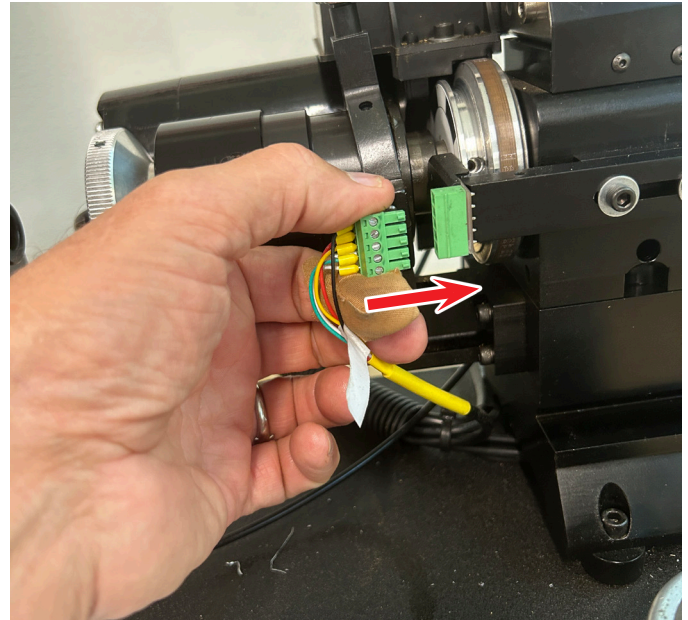

FIGURE 10—Reconnecting the optical encoder wires.
- 5. With the power OFF, reconnect the green optical encoder connection. Be sure that all five pins are in the five female outlet holes (see Figure 10).